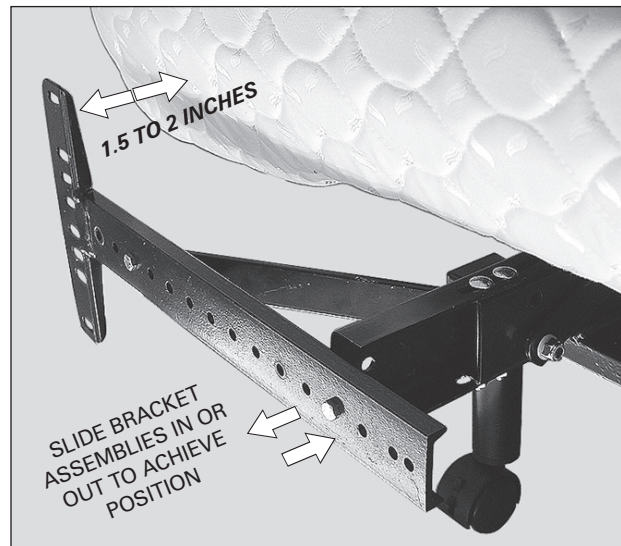

FIGURE 9: Headboard bracket position from the edge of the bed base frame.
- d. Slide headboard bracket assemblies (in or out) to achieve a distance of 1.5 inches (38.1mm) to 2 inches (50.8mm) between the edge of the bed base and headboard bracket flange assemblies (**FIGURE 9**).